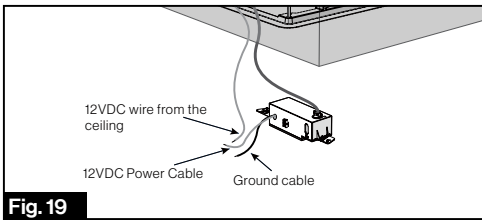

Fig. 19
- Find the 12V DC power cable (red, tagged with "12 VDC") and ground cable (black, tagged with "Ground (12VDC)") of the control box, which are tied together. And then connect them with the corresponding wire of the RV. (Fig. 19)